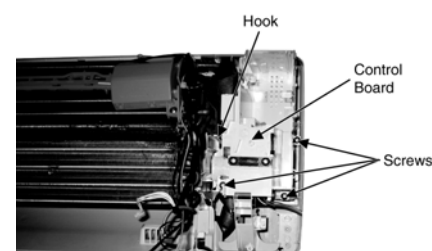

Fig. 9
- Release the 3 screws (Fig. 9)
- By pressing down the hook at the left hand side, you will be able to remove the Control Board. (Fig. 9)